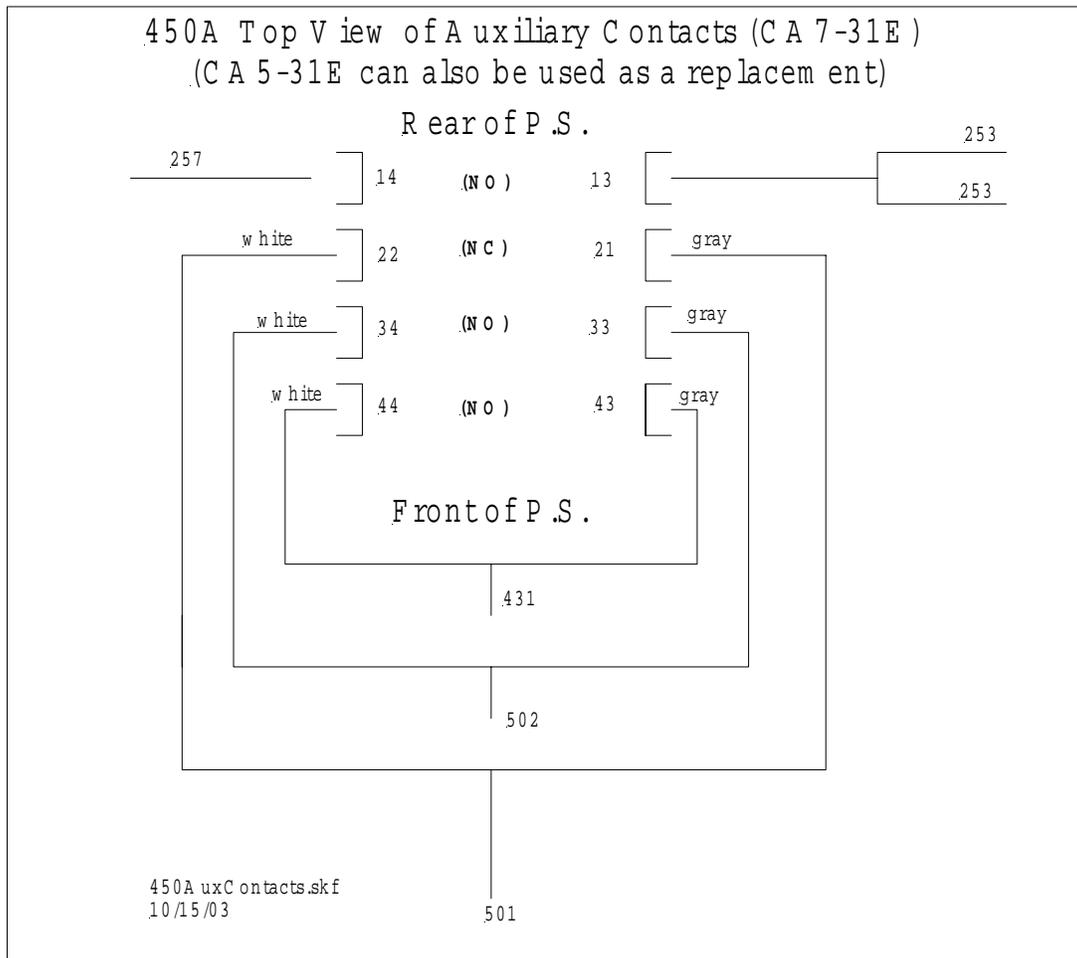

Figure 4 - 450A auxiliary set of contacts wiring diagram
17. In case you need to know how to hook up the wires because you did not write it down you can either open up another p.s. of the same type and check or you can use these drawings below (Figures 4 and 5). It is possible the wire numbers may be different although they should not be. If the wire numbers are different you may want to open up another p.s.